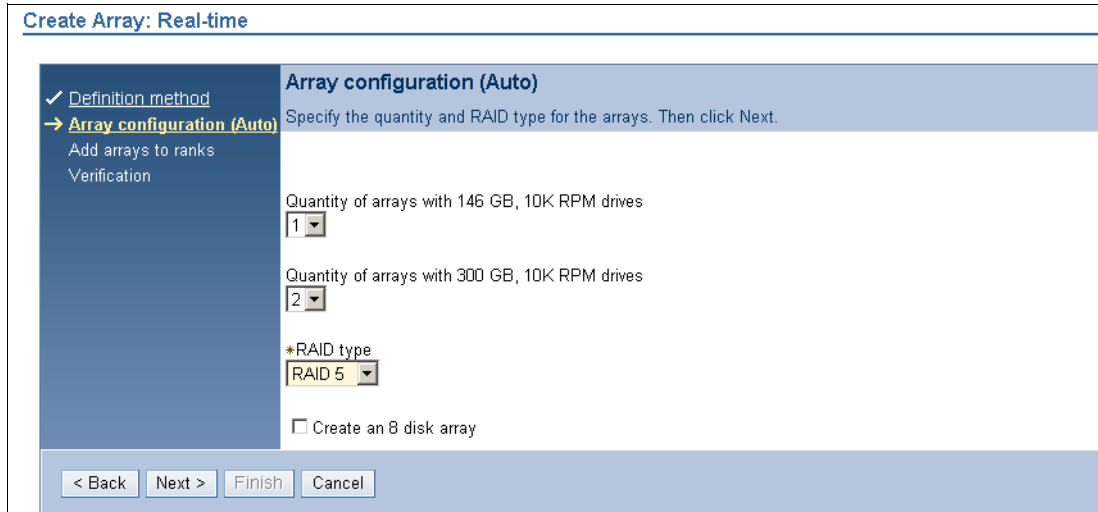

Figure 10-14 Add arrays to ranks window
If you want the Array you are creating to be added to a Rank, then you have to select **Add these arrays to ranks** and also to specify if it should be a fixed block (FB) Rank for open system hosts or a count key data (CKD) Rank for System z hosts (see Figure 10-14). If you do not select the **Add these arrays to ranks** option, you have to assign the Array to a Rank later.